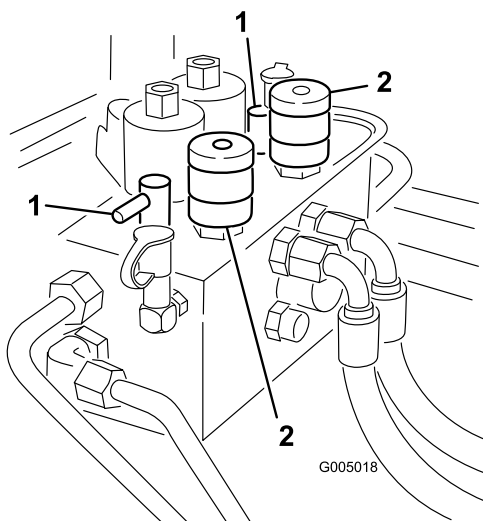

Figure 81
3. Locate the reel speed selector knobs and backlap knobs (Figure 81). Rotate the desired backlap knob(s) to the backlap position and the desired reel speed selector knob(s) to position 1.